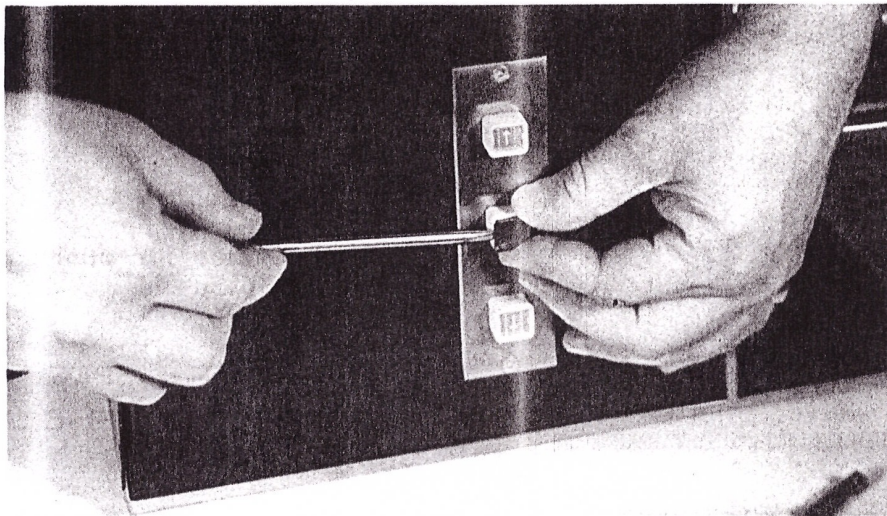
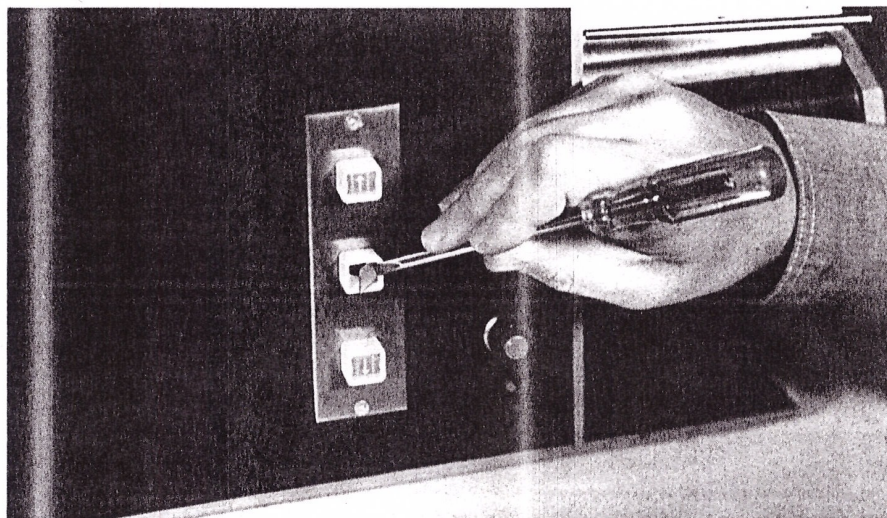

FIG 7.5 REMOVING PLASTIC LENS OF INDICATOR LAMP
FIG 7.6 REMOVING LAMP DIFFUSER
- (a) Remove the plastic lens by placing a screwdriver or a penknife blade under the projecting lip and easing it outward (Fig 7.5). Push one side of the diffuser inward. This causes the other side to project outward so that it can be grasped and withdrawn (Fig 7.6).